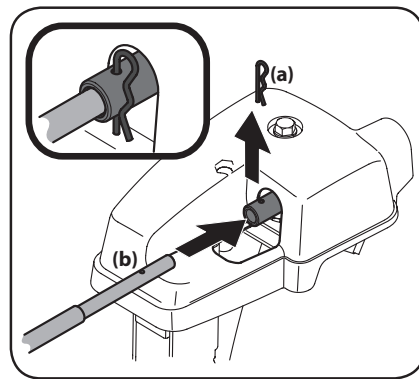

Figure 2-34
4. Remove hairpin clip (a) from rear of chute control assembly. See Figure 2-34.
5. Insert flex shaft (b) removed during Handle Assembly from lower handle into rear of chute directional control head. See Figure 2-34. Secure flex shaft to chute control head with hairpin clip (a) removed in Step 4.